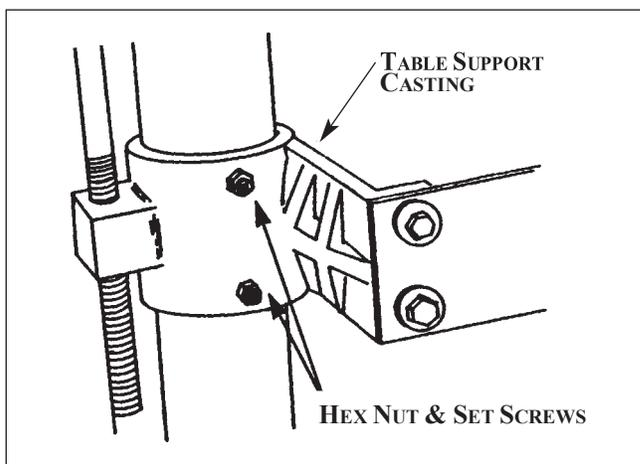
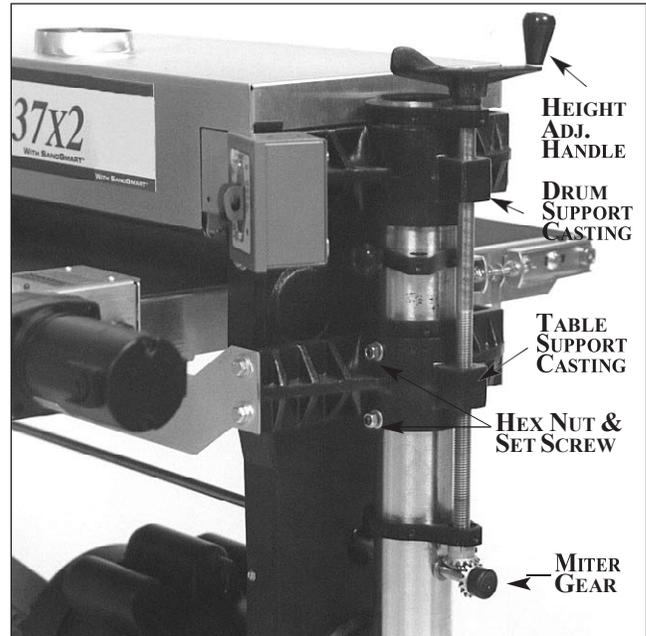

Fig. 3. Table support casting and setscrews.
Fig. 11. Table height adjustment mechanism.
2. Loosen the hex nut and set screws on the table support castings (Fig. 3). The set screws on the table support castings have been tightened at the factory to eliminate free-play between the table support casting and the column tube during shipment. There are two table support castings on the SUPERMAX, one each for the right and left column tubes. Important: These set screws are tightened for shipping and must be loosened and readjusted before operating either the height adjustment mechanism or the conveyor drive.
The table height and depth of cut is controlled by the height adjustment handle (see Fig. 11). Turning the handle raises or lowers both sides of the table simultaneously by transferring the handle rotation through the miter gear and cross bar assembly.
**Important:** Before using the height adjustment, be sure to loosen both the set screws located on the front of both table support castings (see Fig. 3 and Fig. 11) to allow the table support to slide on both column tubes. These set screws are tightened for shipping and must be loosened and readjusted to
allow the table support castings to move freely on the column support tubes. Readjust the set screws just so they eliminate free-play between the table support casting and the column tube. To properly adjust, tighten the set screws (see Fig. 3) only finger-tight so they lightly touch the column tubes. Then hold each set screw in position with an Allen wrench and tighten the hex nut.